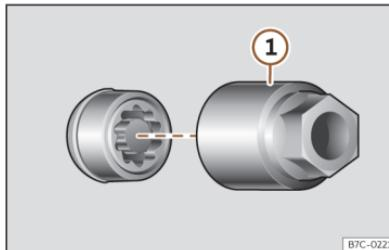

Fig. 199 Anti-theft wheel bolt with cap and adapter.
- Insert the special adapter >>> Fig. 199 ① (vehicle tools >>> page 270) onto the anti-theft wheel bolt and push it on as far as it will go.